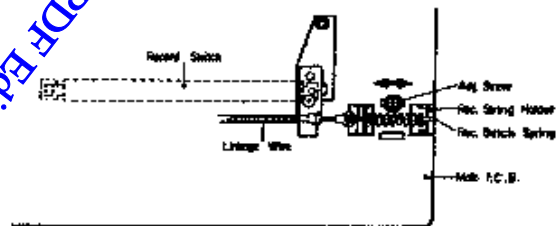

Fig. 4.17
- (1) Set the LX-3 in Stop mode.
- (2) Loosen the screw of the Record Spring Holder, and shift the Record Spring Holder in order to remove the looseness of the Linkage Wire as shown in Fig. 4.17. Then tighten the screws for fixing the Record Spring Holder. (In this case, the Record Switch should be positioned at play side, if on the record position, it will be defective.)